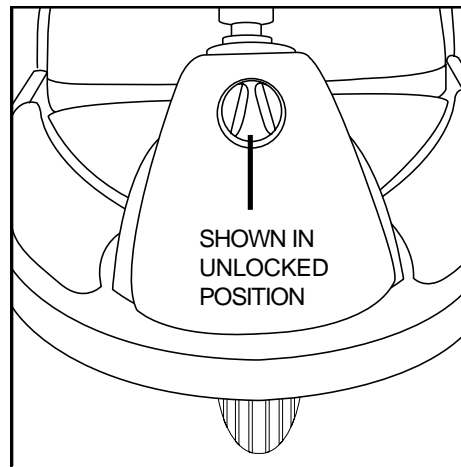

Figure 14. Tiller Lock Knob
1. Lock the tiller in place by positioning it forward then pushing the tiller lock knob in and turning it clockwise 90 degrees. See figure 14.